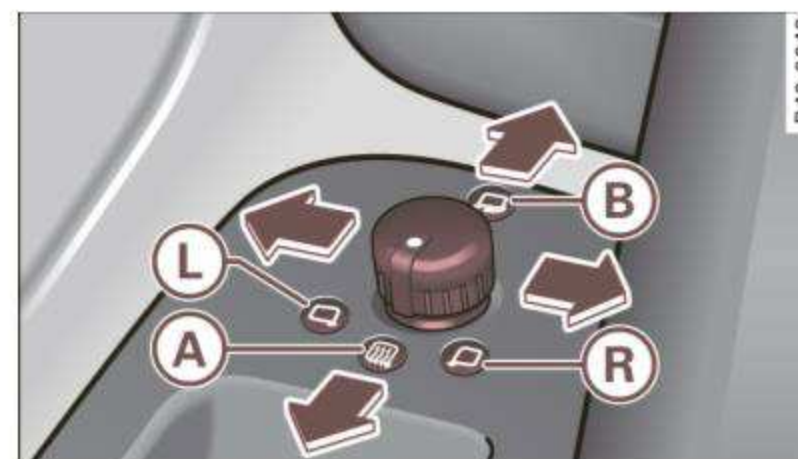

Fig. 55 Forward section of driver's armrest: power mirror controls
- Turn the adjusting knob to position **L** (driver's side) or in position **R** (passenger side) ⇒ fig. 55.